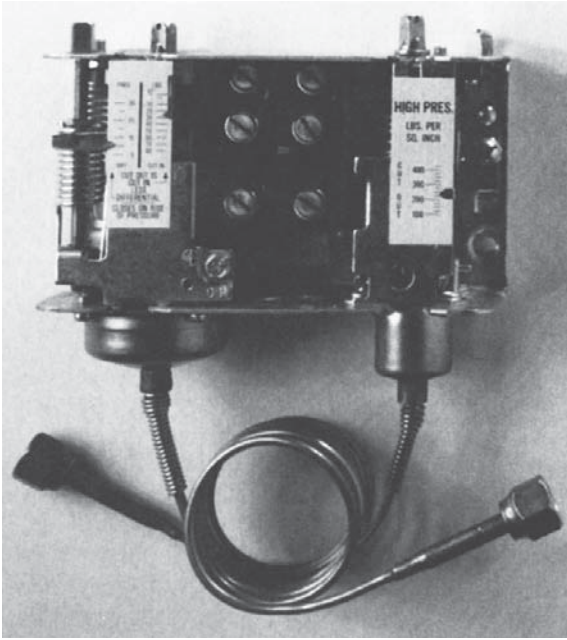

FIGURE 20-25 High-low pressure cutout. (Photo courtesy of Johnson Controls/PENN.®)
the liquid line solenoid valve (SOL). This allows refrigerant to pass from the receiver into the low side, allowing the low-pressure switch in the combination high-low pressure control (PC) to close (see Figure 20-25). This will energize the compressor contactor M1, which in turn, energizes the three-phase compressor motor and the single-phase condenser fan motor.